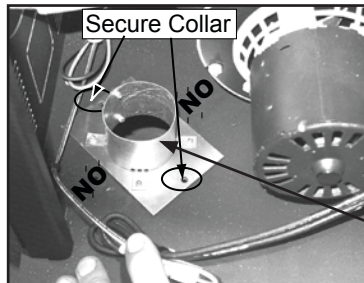

Figure 19.2
- Align and secure collar assembly with 2 of the 4 holes as shown. **Figure 19.2.**